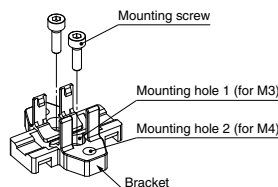

Fig. 3
- 1) The standard bracket of ZH18/20D□A can be mounted either by using mounting holes 1 or 2 (Fig.3).
- 2) When mounting the product through mounting hole 1, mount the bracket to the installation position first (Fig.3).